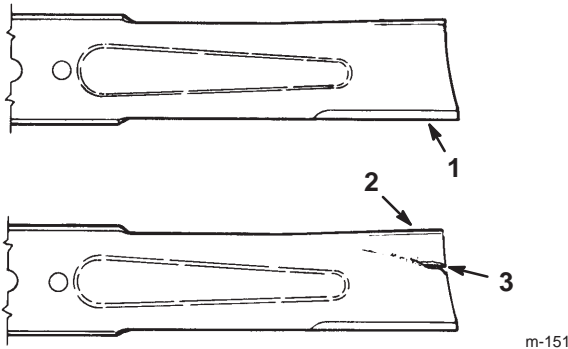

Figure 33
2. Inspect the cutting edges (Fig. 33). If the edges are not sharp or have nicks, remove the blades and sharpen them; refer to Sharpening the Blades on page 31.
3. Inspect the blades, especially the curved area (Fig. 33). If you notice any damage, wear, or a slot forming in this area (Fig. 33), immediately install a new blade.